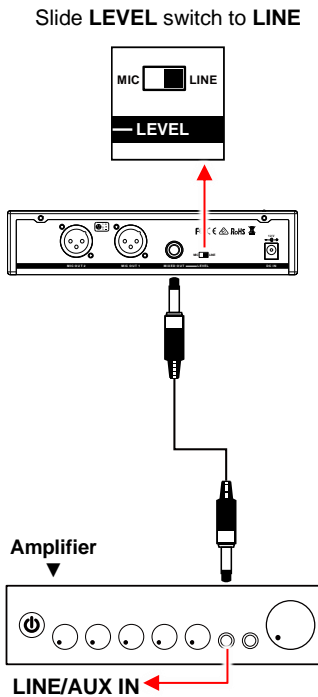

Fig 4
- When connecting to the **LINE /AUX IN** of a mixer/amplifier, switch to “**LINE**” position (Fig 4). DO NOT use the “**MIC**” position as they may not deliver a sufficient high output level.